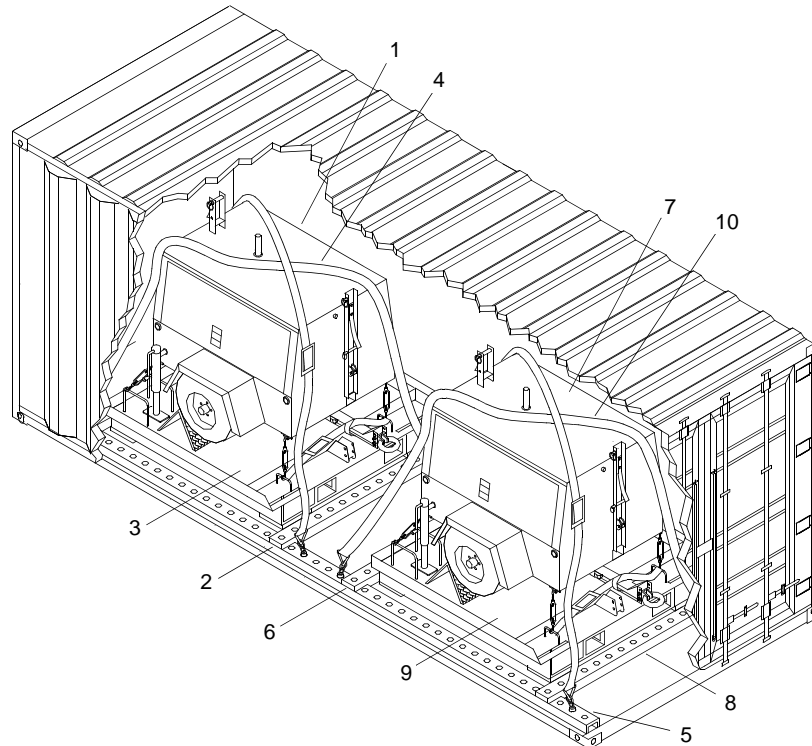

Figure 10. Light Tower Storage
54. Using forklift, position aft light tower (figure 10, item 1) inside light tower container.
55. Using forklift and push-pull rod, position aft light tower (figure 10, item 1) in rear of light tower container.
56. Install forward track stop (figure 10, item 2) in front of aft light tower pallet (figure 10, item 3).
57. Use two ratcheting tie down straps (figure 10, item 4) to secure aft light tower (figure 10, item 1) to light tower container tracks (figure 10, item 5).
58. Install rear track stop (figure 10, item 6) for forward light tower (figure 10, item 7) placement.
59. Using forklift, position forward light tower (figure 10, item 7) inside light tower container.
60. Install forward track stop (figure 10, item 8) in front of forward light tower pallet (figure 10, item 9).
61. Use two ratcheting tie down straps (figure 10, item 10) to secure forward light tower (figure 10, item 7) to light tower container tracks (figure 10, item 5).